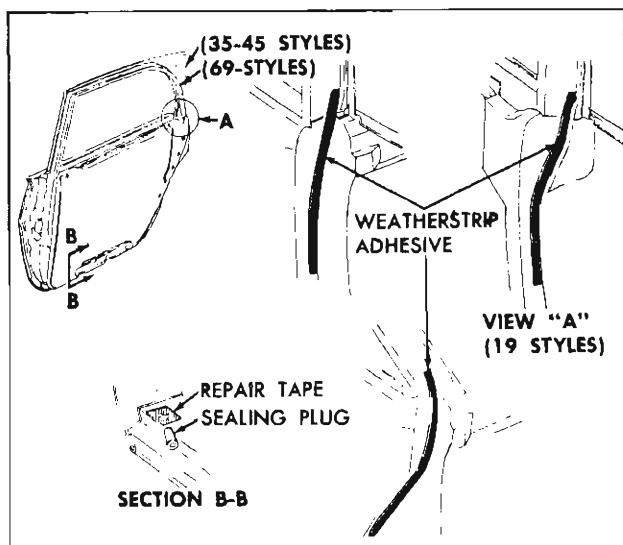

Fig. 41—Rear Door Weatherstrip Adhesive Application
3. Carefully break cement bond securing weatherstrip to door. If necessary, a flat-bladed tool, such as a putty knife, can be used to help break cement bond (fig. 41).
3. Clean off old cement from door to insure a clean cementing surface. Apply a bead of an approved weatherstrip adhesive to hinge and lock pillar facings of door. Begin adhesive application slightly above belt line and continue down door for approximately seven to nine inches. If necessary, weatherstrip adhesive can also be applied to lower corners of door (fig. 41).